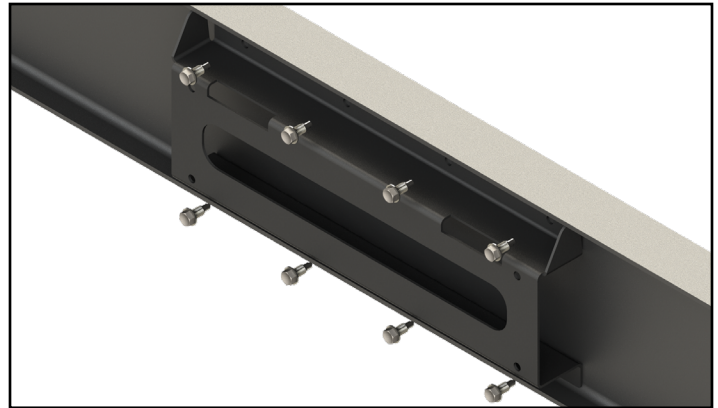

Fig.1
2. Fasten the bracket to the I-beam by securing the $\frac{5}{16}$ " - 12 X 1" self-tapping screws in the top and bottom of the bracket (Fig. 1). Use all 8 of the screws.